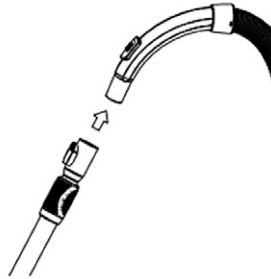

Fig. 2
2. **Fig.2: The connection of the hose and the extending metal tube:**